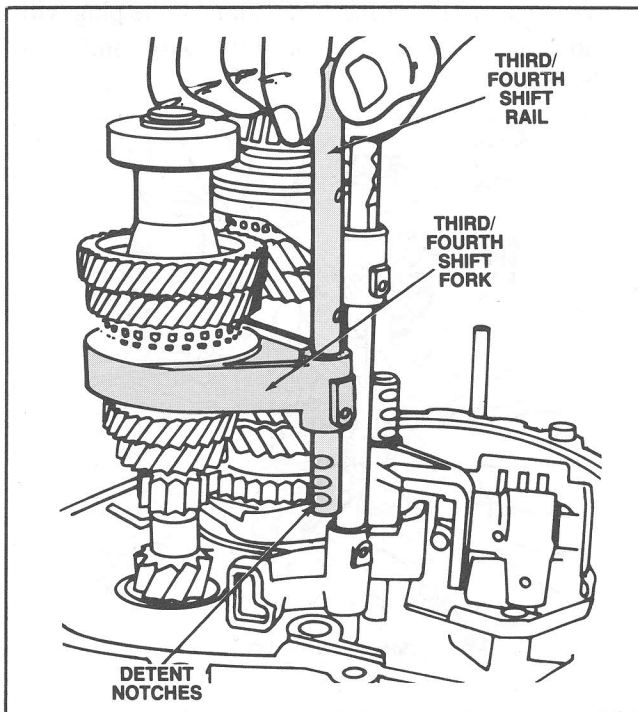

Figure 120 Shift Rail Installation
12. Install the third/fourth shift fork and rail on the synchronizer. (Figure 120).